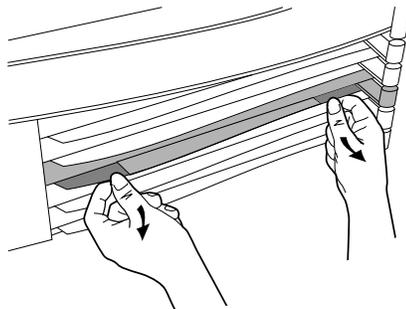
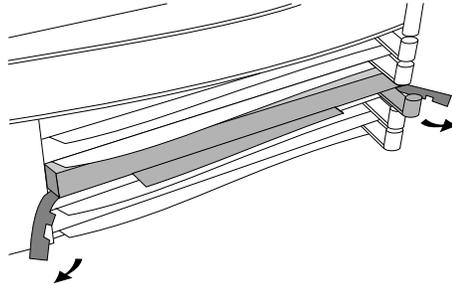

Figure 7. Unlocking the Card Bezel
Figure 8. Disengaging the Card Bezel
4. Press down slightly on the insides of both locks on the old card's bezel (see figure 7), then swing them outward until the bezel disengages (see figure 8).